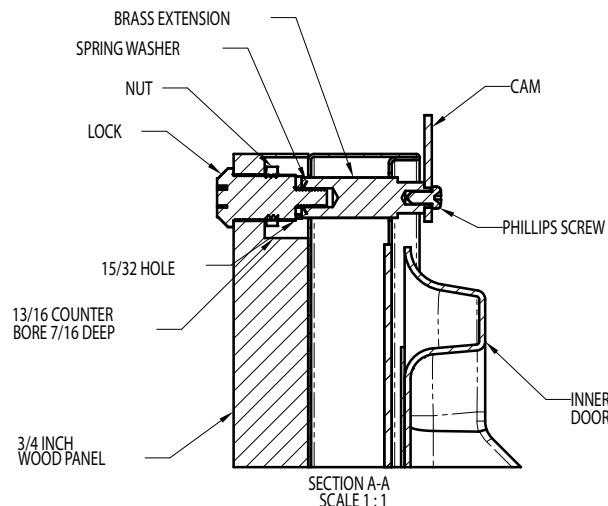

Figure 11
Locate and mark with a pencil the location of the lock hole on the overlay panel, this is the hole in the top corner of the handle side of the door. Remove the clamp and remove the overlay panel from the door. On the backside of the panel where you marked the lock location drill a 13/16" (20.5mm) diameter counter bore 7/16" (11.0mm) deep into the overlay panel. Drill a 15/32" (12.0mm) diameter hole through the overlay panel centered on the counter bore being careful not to splinter the wood on the face side of the panel. (See Figure 11).
Two (2) lock extensions are supplied with the lock. Use the longer extension for a 3/4" thick overlay panel and the shorter one for a 5/8" thick panel. Assemble the lock extension, cam stop washer, spring washer, and set screw to the lock as shown in Figure 11 and 12. Install this assembly into the overlay panel and secure with the retaining nut using a 15mm socket. Make sure the key slot in the lock is vertical.